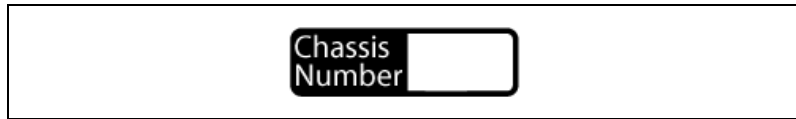

Figure 2-6. Chassis Number Label
5. Apply the chassis number labels (shown in Figure 2-6) included with your kit to each chassis in your PXI system, and write in the chassis number accordingly in the white space.